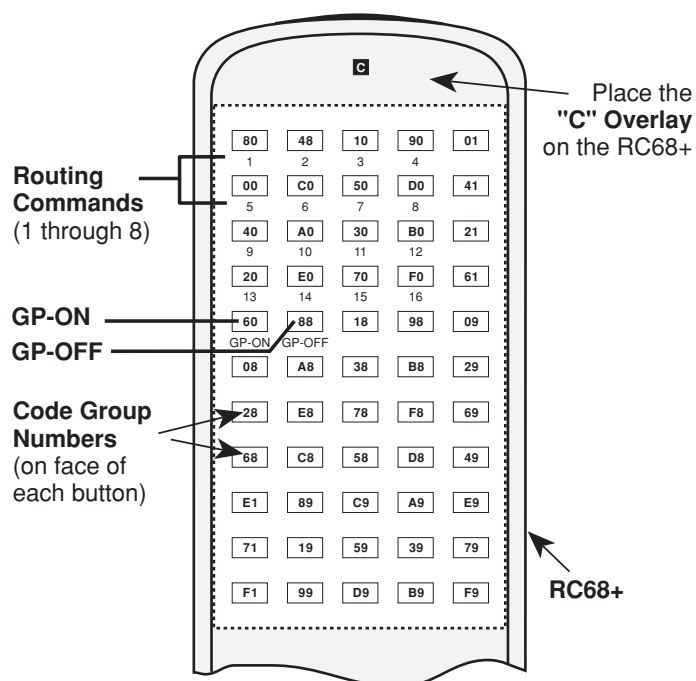

Fig. 2 RC68 Programmer
The RC68+ Programmer (available separately) contains all the commands necessary to operate the RT8 (see **Fig. 2**).
6. The RC68+ commands **1, 2, 3, & 4** (refer to **Fig. 2**) will establish an IR route to each TV individually. The **GP-ON** (Group On) command will route to all 4 TV's simultaneously.